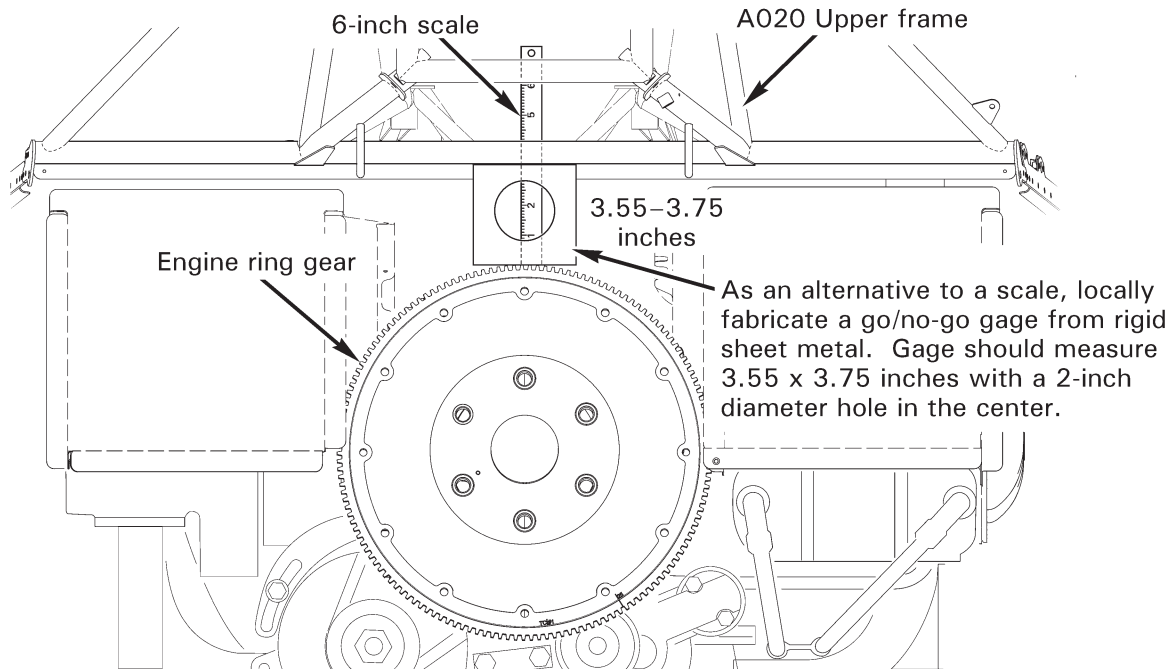

FIGURE 6-2 ENGINE INSTALLATION
2. Measure ring gear-to-upper frame cross tube dimension as shown in Figure 6-2. If dimension exceeds 3.75 inches, an equal amount of shims must be added between lower frames and both the lower-left and the lower-right engine rubber mount pads. Use following formula to calculate required maximum shim thickness:
9. Engage clutch. Verify ring gear-to-upper frame cross tube dimension as shown in Figure 6-2. Adjust as required.